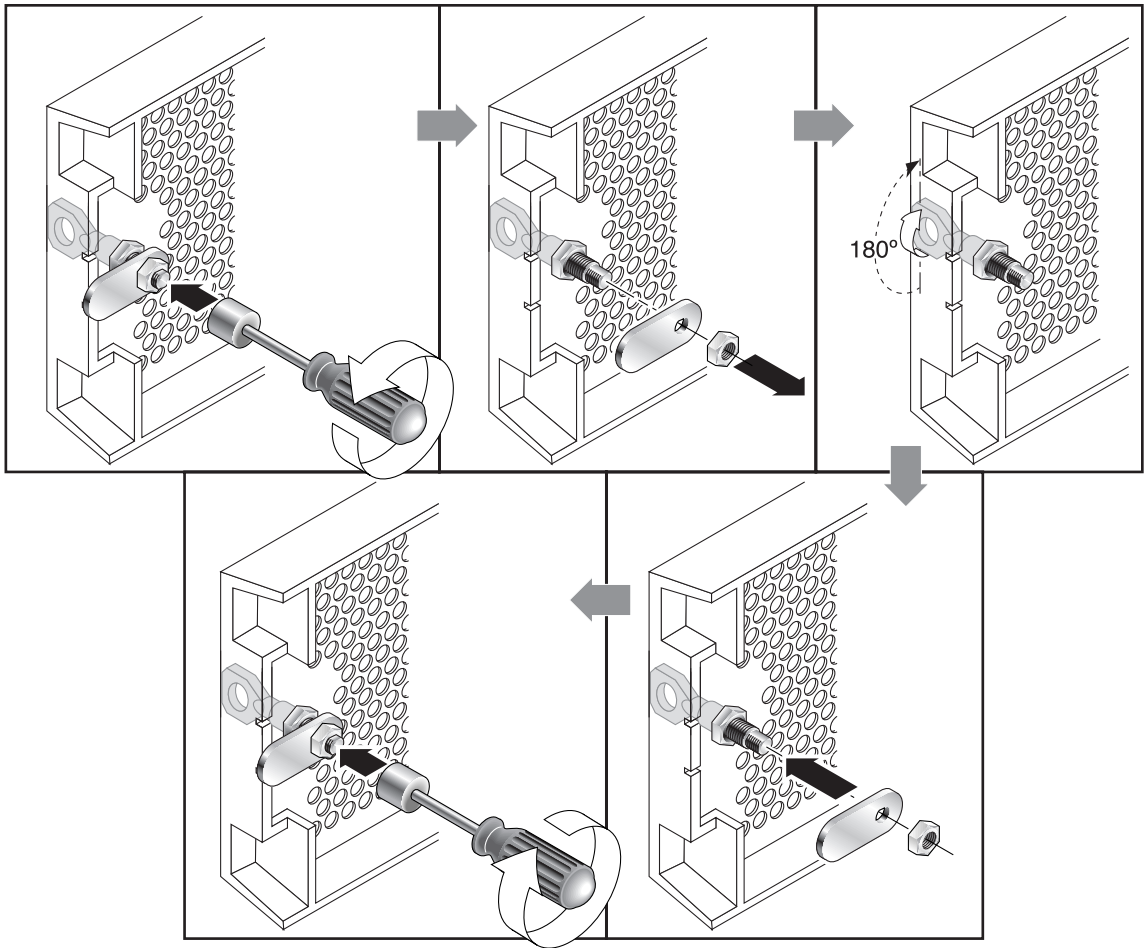

FIGURE 4-2 Sequence of Steps to Change Front Bezel Locks So Keys Cannot Be Removed
3. Hold the key in place and use a 12 mm or 3/8-inch nut driver to remove the locking nut that holds the pawl in place, as shown in the first panel of FIGURE 4-2.
4. Lift the pawl off the threaded part of the lock body, as shown in the second panel of FIGURE 4-2.
6. Use the key to turn the lock 180 degrees, as shown in the third panel of FIGURE 4-2
7. Replace the pawl in the same orientation as before, as shown in the fourth panel of FIGURE 4-2.
8. Hold the key in place and use the nut driver to refasten the locking nut that holds the pawl in place, as shown in the fifth panel of FIGURE 4-2. Be careful not to cross-thread the nut.